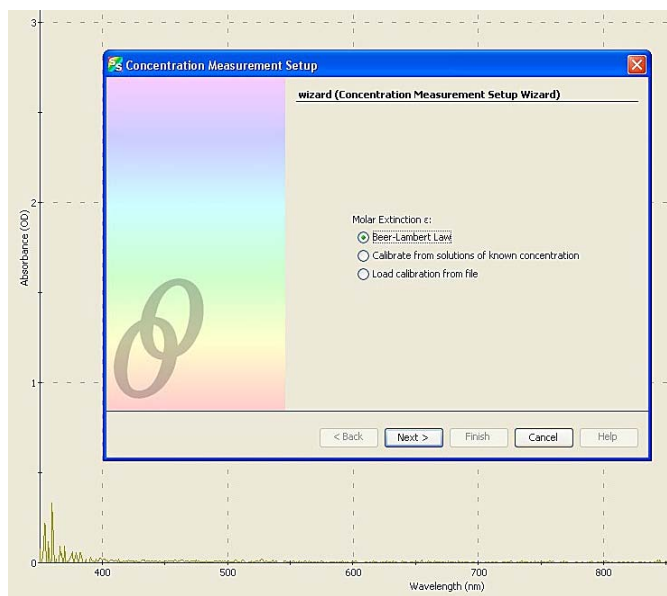

Fig.21
A dialog box appears giving you three choices. See Fig. 21.
Notice that an Absorbance graph is running in the chart window. See Fig.21.
See Fig.21.
3. Click the radio button *Load calibration from file* (see Fig. 21). Find the file and click *Next*. The regression plot you worked so hard to create will appear.